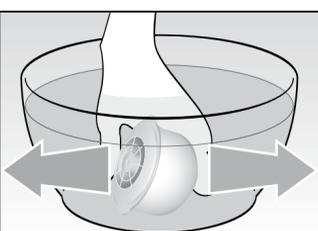

Fig. 8
Prepare your filter cartridge (D) by carefully following all of the instructions on the packaging. Remove the cartridge from all packaging (Fig. 7). There may be a small residue of black particles (carbon) in the bag or adhering to the cartridge body, this is normal. These particles are harmless and are washed off during the preparation process. Shake the cartridge (D) in cold water to ensure that any trapped air bubbles are removed (Fig. 8). Some loose carbon particles may be released during this process. This is normal and does not influence performance.